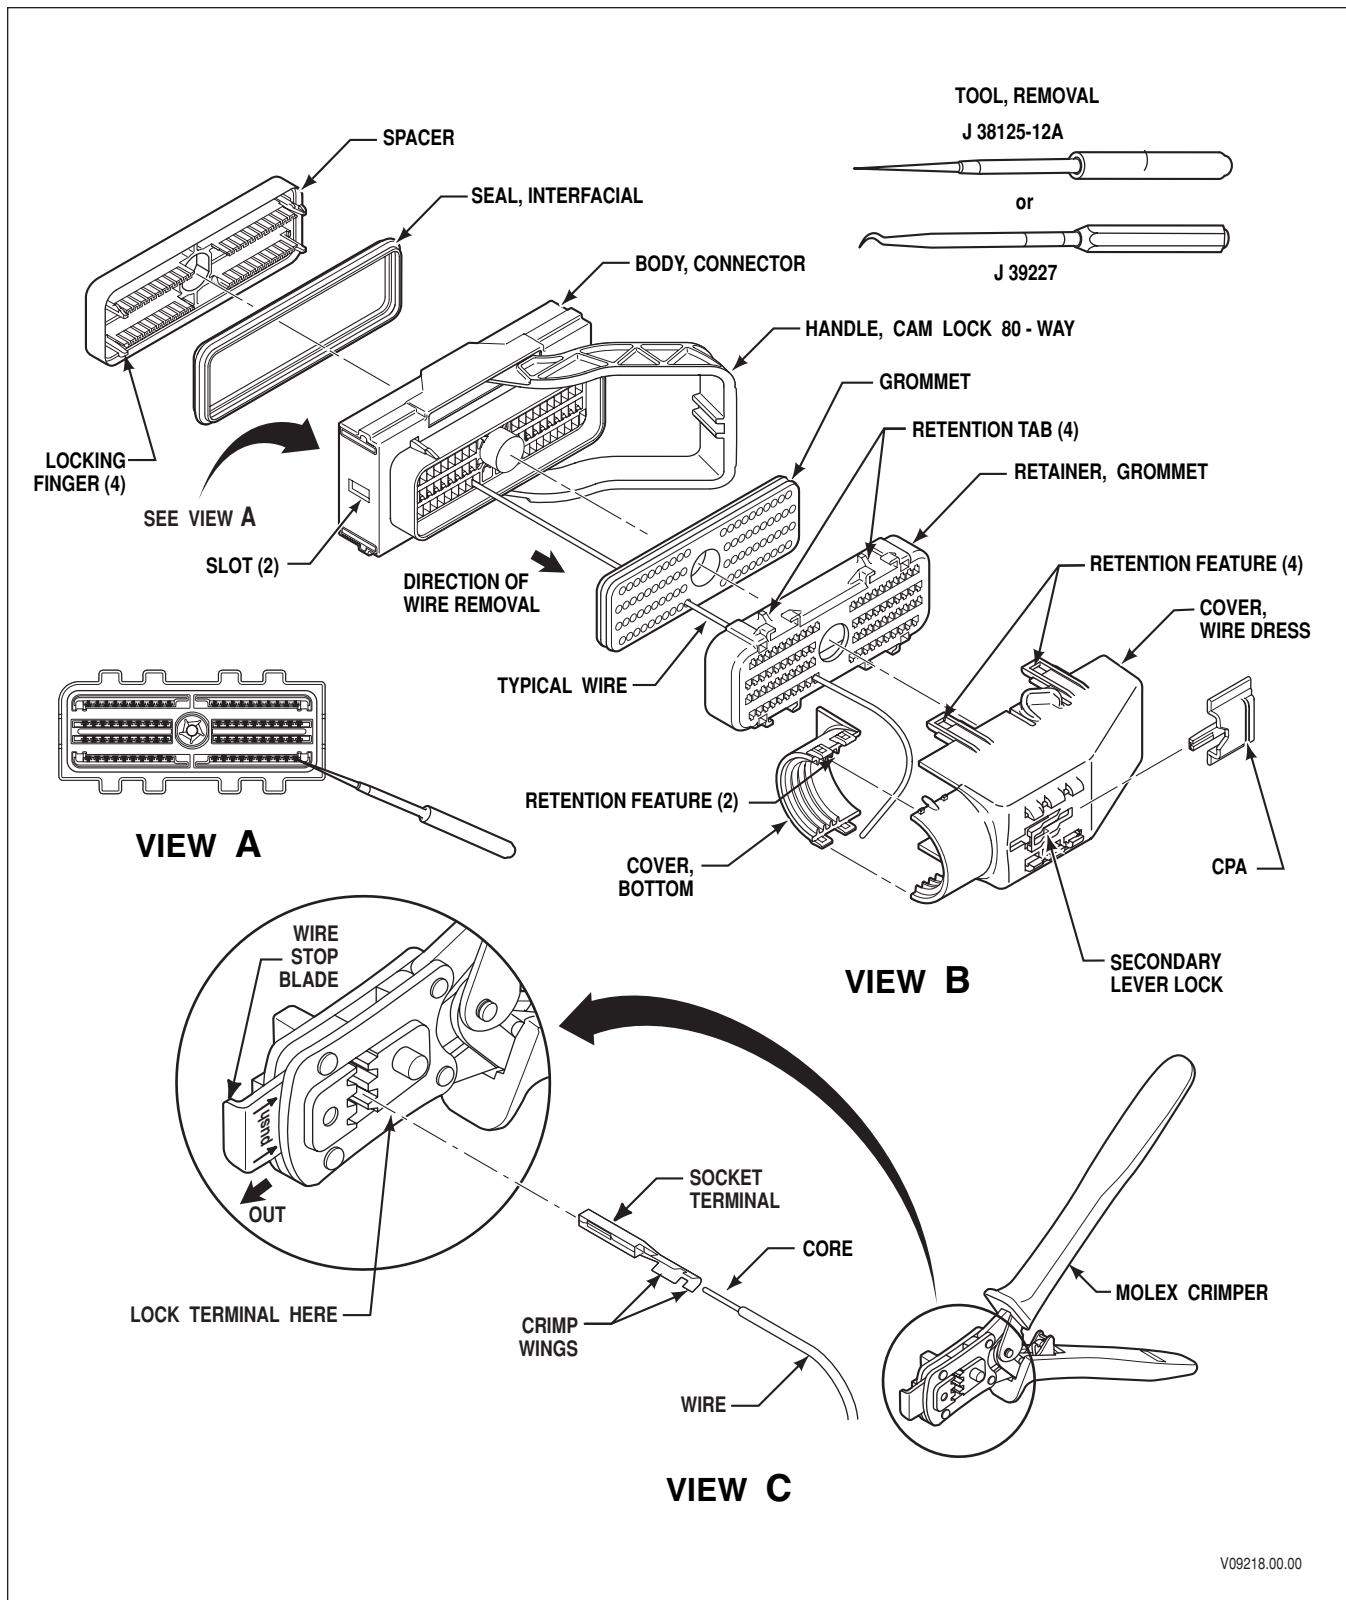

Figure E-2B. AFL 80F Cam-Assist, Dir 'B' Connector (TCM Connector)
B. Connector, Assembly 80F Cam-Assist, 'B' Dir (refer to Figure E-2B)**Required Tools**